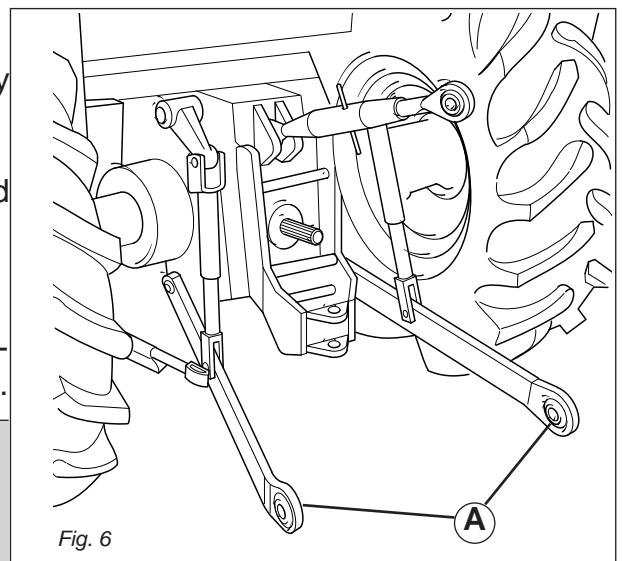

Fig. 6
1. Back tractor into position and align draft links (A, Fig. 6) with draft link brackets on sickle bar.